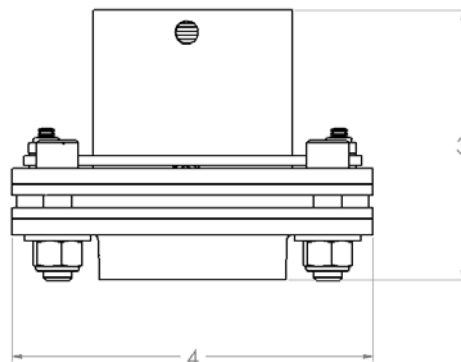

Figure 3. Dimensions
2. Thread the Swivel Adapter onto 1 ½” NPT pipe at desired overhead location (**SEE WARNING ABOVE**), allowing for the added distance of the adapter (see Figure 3).